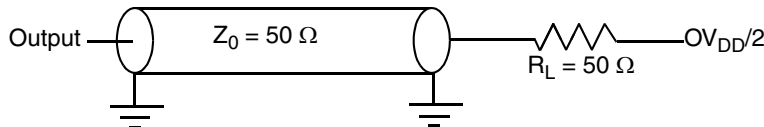

Figure 32. AC Test Load for the JTAG Interface
- All outputs are measured from the midpoint voltage of the falling/rising edge of t_{TCLK} to the midpoint of the signal in question. The output timings are measured at the pins. All output timings assume a purely resistive 50-Ω load (see Figure 32). Time-of-flight delays must be added for trace lengths, vias, and connectors in the system.
- The symbols used for timing specifications herein follow the pattern of $t_{(first\ two\ letters\ of\ functional\ block)(signal)(state)\ (reference)(state)}$ for inputs and $t_{(first\ two\ letters\ of\ functional\ block)(reference)(state)(signal)(state)}$ for outputs. For example, t_{JTDVKH} symbolizes JTAG device timing (JT) with respect to the time data input signals (D) reaching the valid state (V) relative to the t_{JTG} clock reference (K) going to the high (H) state or setup time. Also, t_{JTDXKH} symbolizes JTAG timing (JT) with respect to the time data input signals (D) went invalid (X) relative to the t_{JTG} clock reference (K) going to the high (H) state. Note that, in general, the clock reference symbol representation is based on three letters representing the clock of a particular functional. For rise and fall times, the latter convention is used with the appropriate letter: R (rise) or F (fall).
Figure 32 provides the AC test load for TDO and the boundary-scan outputs.
Figure 32 provides the AC test load for the I²C.